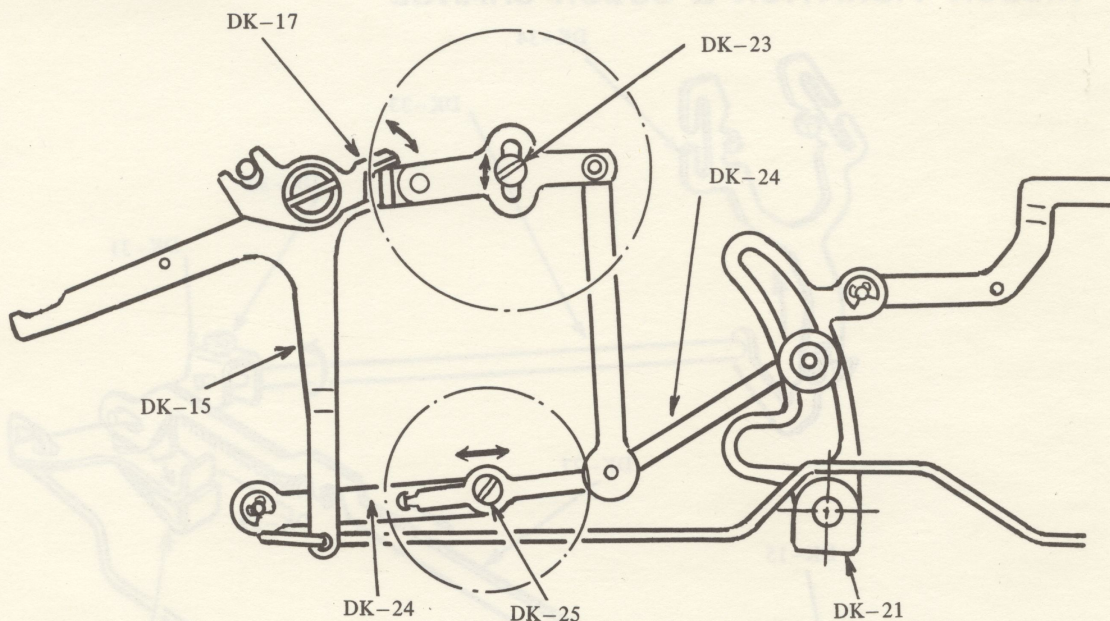

Fig. 66
- (1) Adjust DK-15 (Color Change Lever) to eliminate excessive play when DK-6 (Color Change Button) for Red is set by bending DK-17 (Stopper for DK-15). (Fig. 66)
- (2) Settle the position of DK-21 (Ribbon Vibrator Driving Controller Unit) by setting DK-4 (Color Change Button for Black), loosening DK-32 (Screw), lowering DK-34 (Ribbon Vibrator) down to the lowest position, and tightening DK-32.
If the operation of DK-24 can not be satisfied, after confirming no distortion between DK-21 and DK-24, align the position of DK-24 with the groove of DK-21 by loosening DK-25 (Fastening Screw) of DK-24. (Fig. 66)